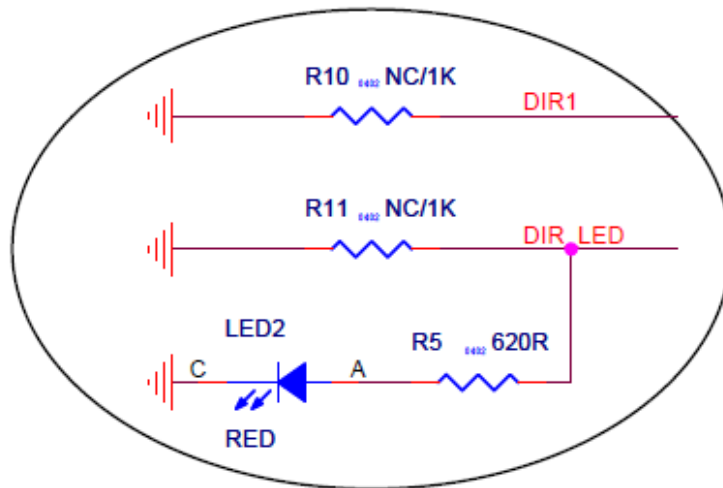

Figure 3- 1 Sensor direction selection circuit
**\*Note:** In Figure 3- 1, R10 and R11 are external resistors that determine sensor direction, and the values depend on actual application. R5 and LED2 are reserved for LED indication function.